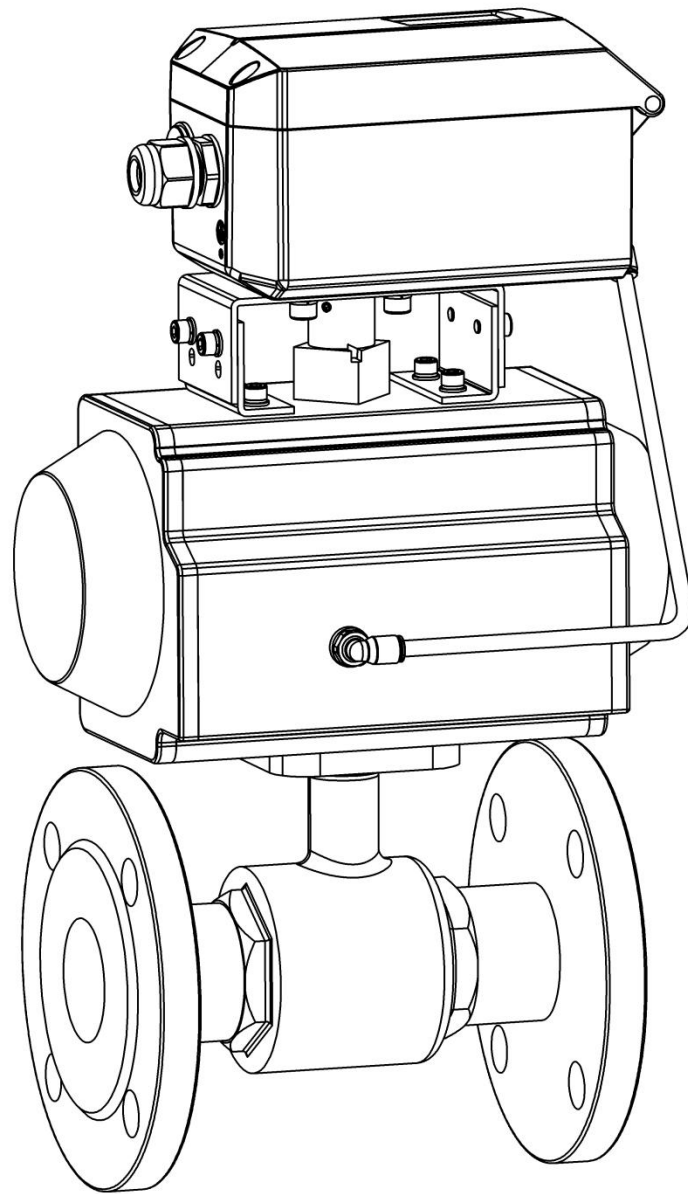

Figure 36. Rotary stroke for normal type
- Adjust the adjusting nut of the displacement sensor. Then measure the D value (as shown in Figure 36) by **the depth ruler** in the state of the displacement sensor being completely loosened. Calculate the compression value $L1 = D - C1$, $L2 = D - C2$. It is recommended that the compression value L1 and L2 are both in the reference range which is showed in Table below. If L1 value or L2 value is unable to meet the reference range, adjust the D value according to the actual situation.